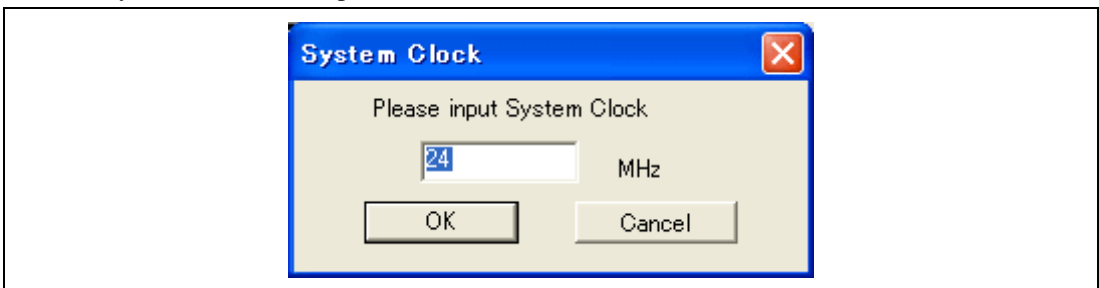

Figure 3.41 [System Clock] Dialog Box
11. When using the H8S family, the dialog box shown in figure 3.41 is displayed. Input the system clock value.